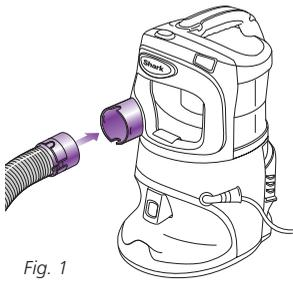

Fig. 1
- 1 Insert the end of the flexible hose into the connector on the front of the *Lift-Around™* Canister Vac. (fig. 1)